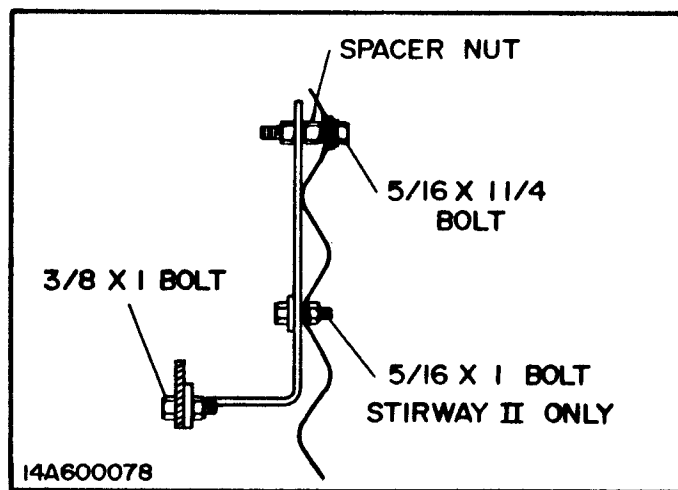

FIG. 1 - TRACK PROFILE - BOLTS
1. Insert 1 1/4" bolts in every other hole around top of bin (approximately 18" spacing), for bins smaller than 30'. For bins 30' and larger, place bolts in every hole (approximately 9" spacing) except at seam. Tighten 5/16" spacer nuts onto bolts. Figs. 1 & 2.
and place a second nut on each top bolt. Do not tighten at this time. Figs. 1 and 2.
- On Stirway II only, the lower hole on each track bracket should be drilled or punched through bin sheet using bracket as pattern. Use a 5/16" bolt no longer than 1" or else point this lower bolt outwards in order not to obstruct the movement of the machine. This should be done after all track sections are in place. Fig. 1
- Tighten nuts on top bolts of brackets. Fig. 1.
- Mount first segment of track in bin. Fig. 1. Punch or drill holes in top sheet to match brackets. On Stirway II only, use both holes per bracket. Bolt top (and bottom) bolts in place on each bracket of the first track section. Figs. 1 and 2.